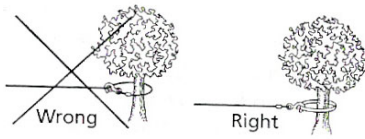

Fig 3.1
**!WARNING** do not attach the load hook back to the rope, as this could damage the rope. This is shown in figure 3.1